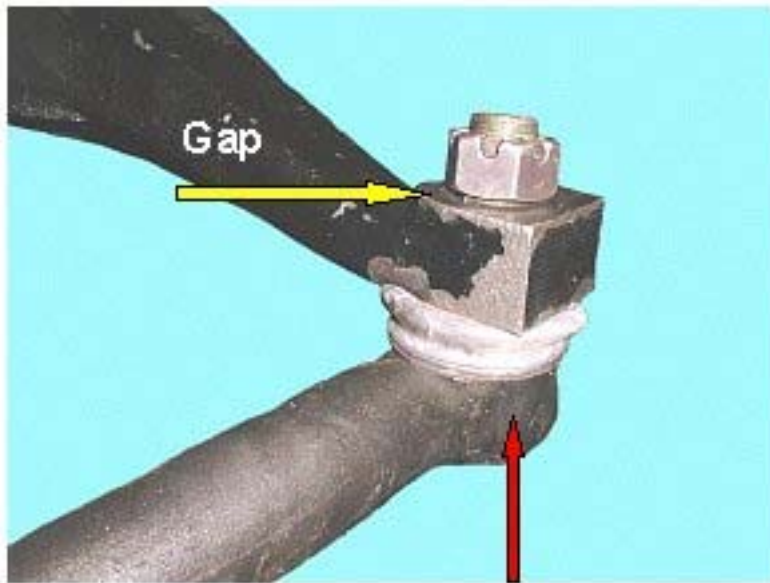

Figure 2 Figure 2
5. While applying an upward force to the drag link, determine if there is a gap between the castle nut and the top of the steer arm machined surface (as shown in Figure 2). If a gap exists the **steering knuckle needs to be replaced**.